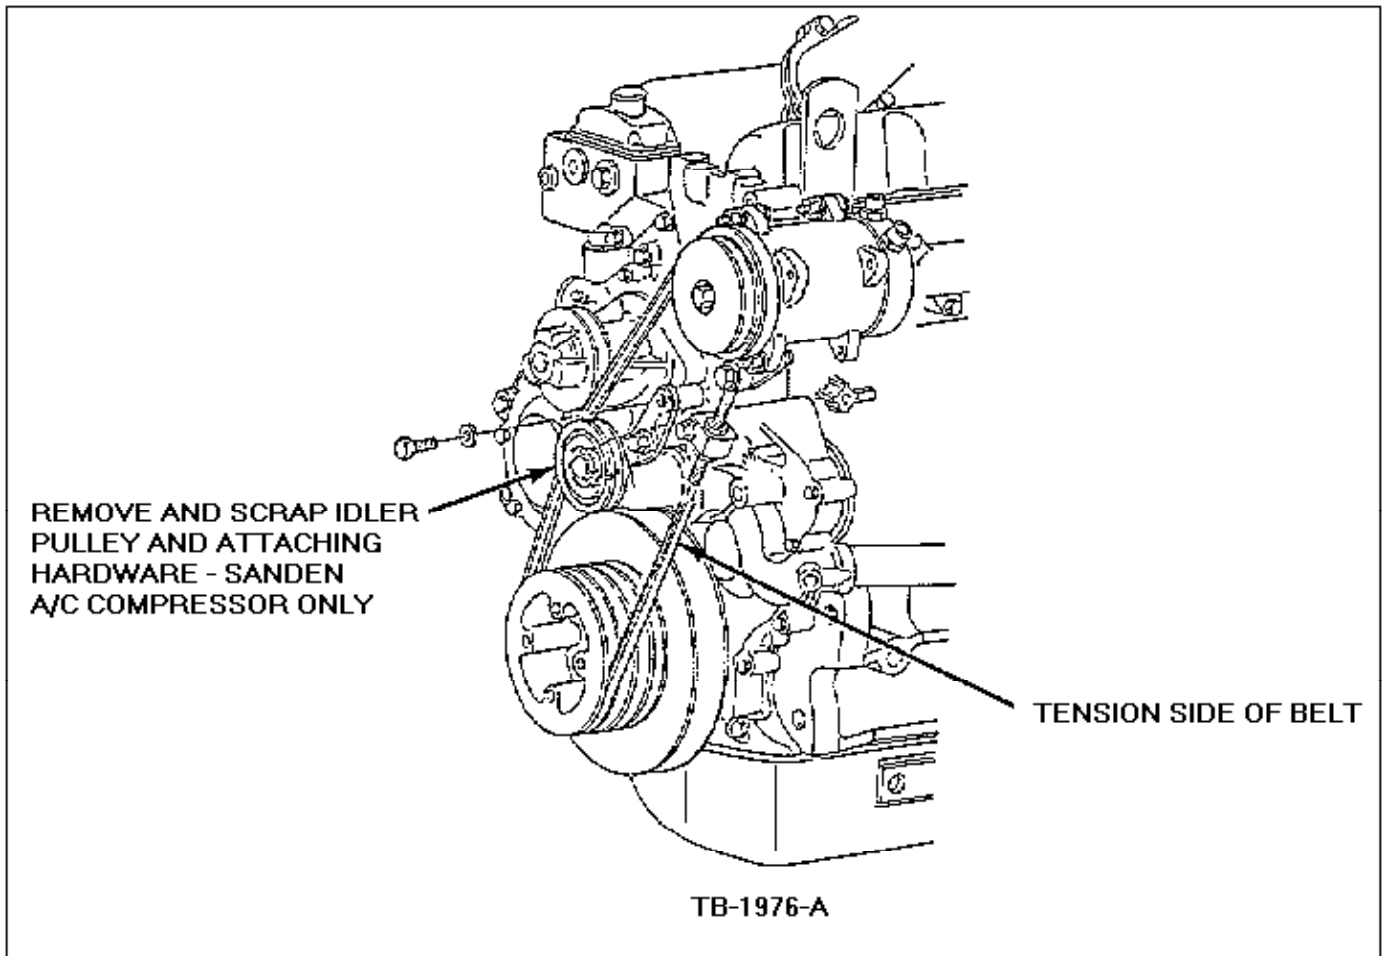

Figure 2 - Article 91-5-13
3. Remove and scrap the idler pulley and attaching hardware from the slack side of the belt circuit, Figure 2.